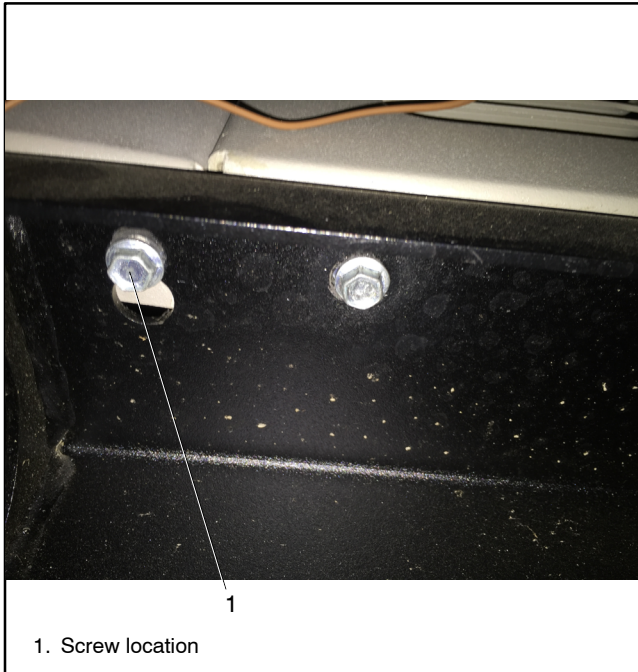

Figure 6 Location of screws
- Remove one right panel screw under the front cross member. See Figure 6.